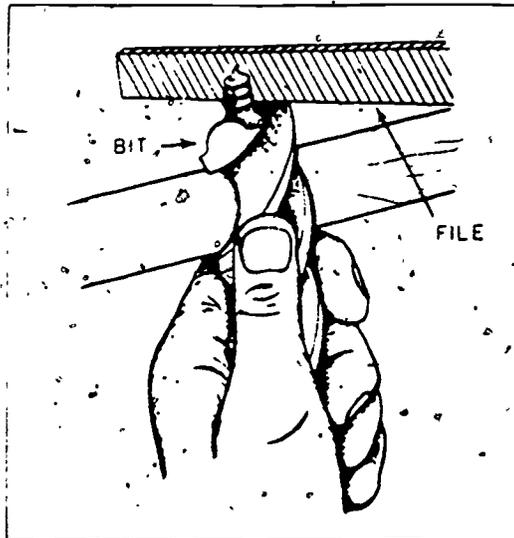

Figure 3-10 Sharpening the nibs of an auger bit.
*Auger bits.* Auger bits are the tools that are placed in the chuck of a brace to do the drilling. They are available in sizes from 1/4 inch to 1 inch. The point of the bit is designed with a spur, nibs, and lips. The nibs score the circle and cut the fibers as the bit is turned. The lips act as small chisels which shave the wood and scoop the shavings into the twist. The spur feeds or pulls the bit into the wood. Often the nibs and lips become dull. These may be sharpened with a special auger bit file. To sharpen the nibs, hold the auger bit against a solid surface, as shown in figure 3-10, and lightly file the cutting edges on the nibs on the inside only. Do not file off any more material from the nibs than is necessary to get them sharp. Stop filing when a fine bur appears on the cutting edge. Remove the spur from the nibs with a light touch of the file.